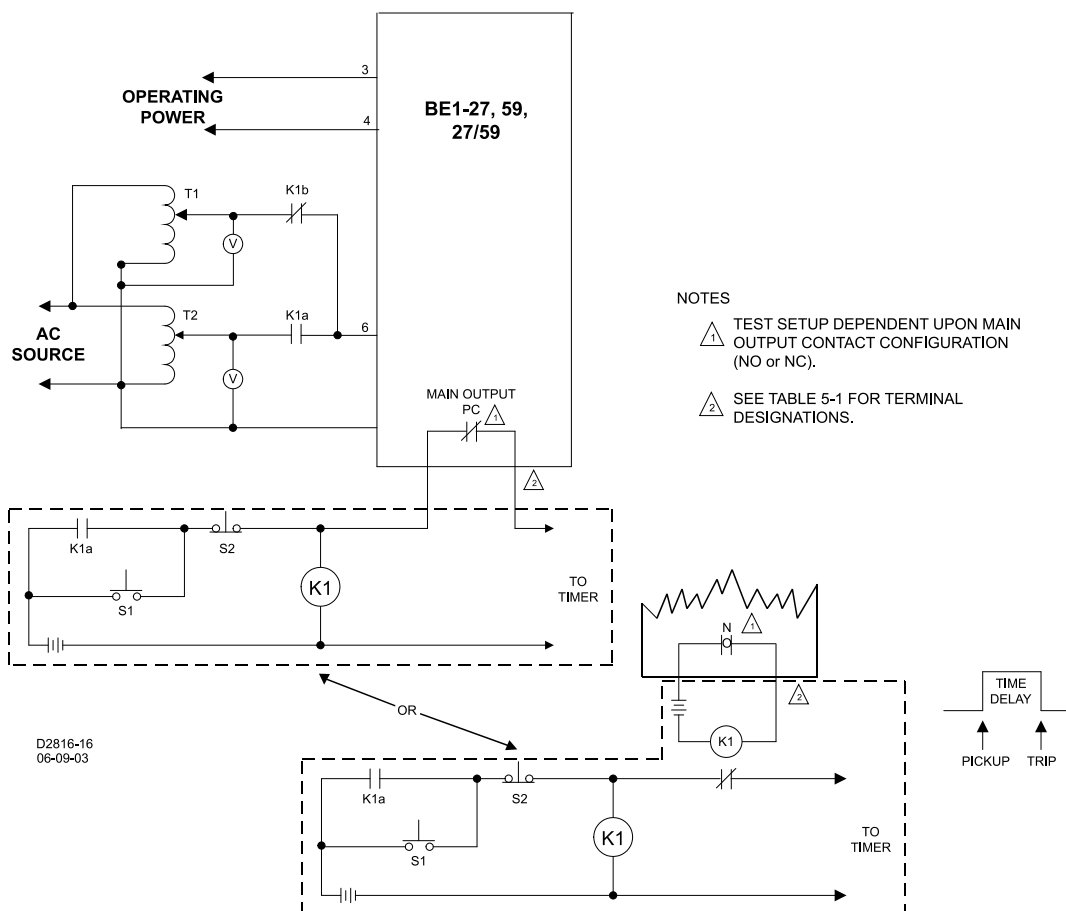

Figure 5-2. Timing Test Circuit Diagram
1. Connect the test circuit shown in Figure 5-2. Output terminal connections are dependent on the function to be tested. See Table 5-1.